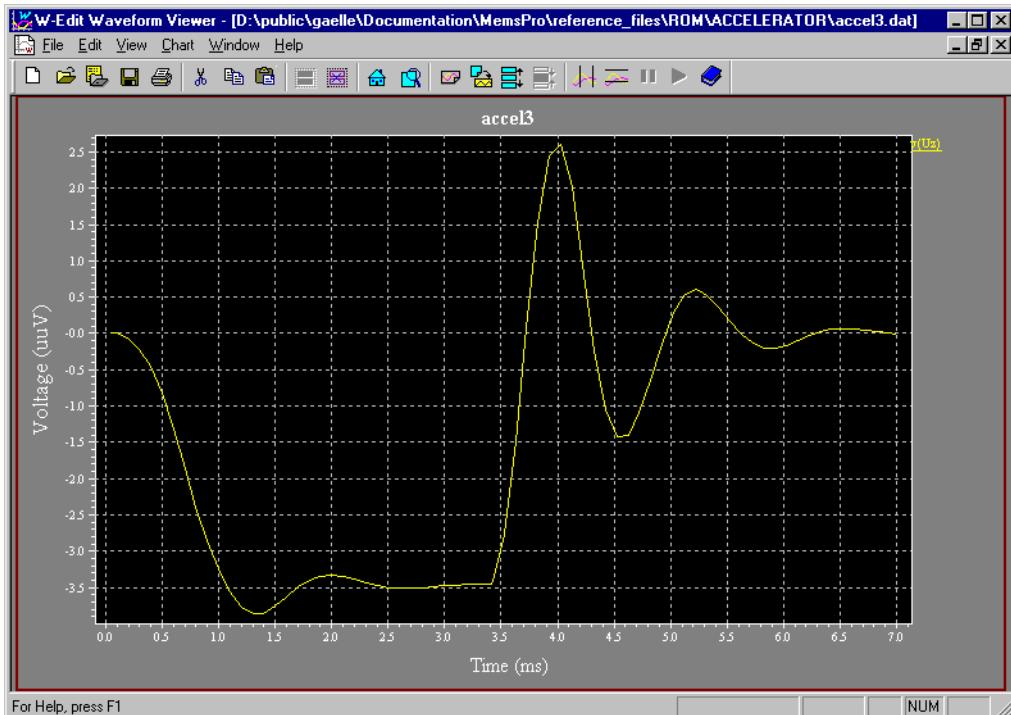

Figure 70: Viewing the results of the Uz simulation
- Then, select **Chart > Expand Chart** to obtain an expanded view of the chart (Figure 70).